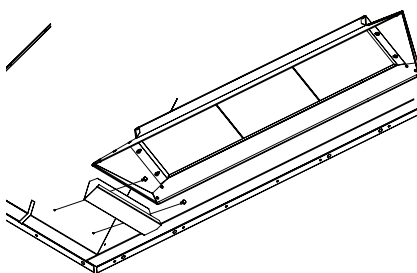

Figure 25 - Installing PureFire Hood
3. Using screws provided, secure the bracket to the inner dome of the fireplace as shown in Figure 25. The left and right bracket are different. The edge that is straight will be closer to the fireplace opening.
4. Lift hood up into the fireplace and place it on the retaining brackets (Figure 25). The rear of the hood will be touching the rear of the fireplace.